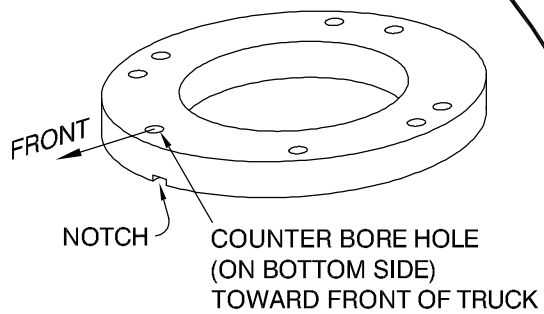

FIG. 4
4. Remove the left and right fan shroud mounting nuts. Fig. 4, 6.
5. Disconnect wiring plug-ins from air box. Remove air box. Fig. 4.